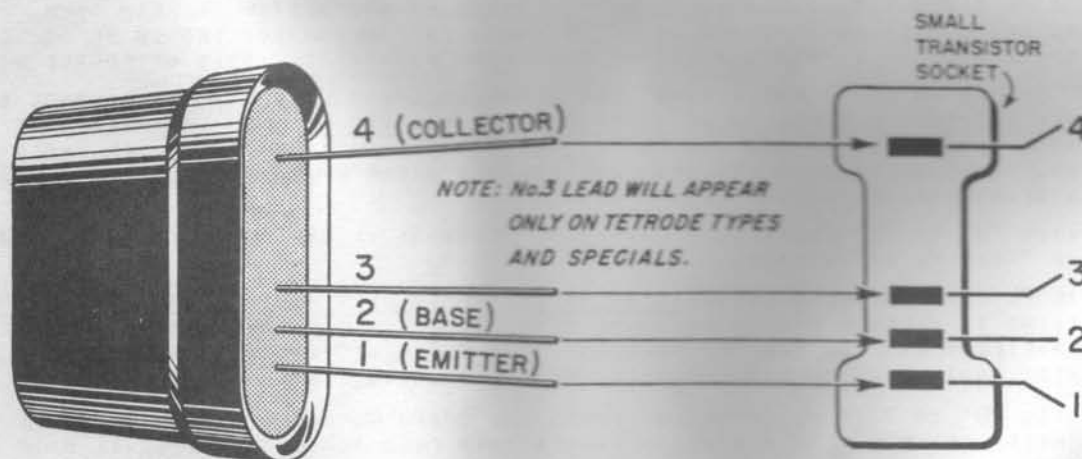

FIG. 5 PLUG-IN TYPE LOW POWER TRANSISTOR
- (1) FROM THE TRANSISTOR TEST DATA SHEET SUPPLIED WITH YOUR 660, SET THE LEVER SWITCHES TO THE SETTINGS INDICATED FOR THE TRANSISTOR TO BE TESTED.
- (2) SET SWITCH "B" AND CONTROL "C" IN ACCORD WITH THE DATA.
- (3) FROM THE DATA, DETERMINE WHETHER THE TRANSISTOR IS PNP OR NPN TYPE AND SET SWITCH "D" TO "SHORT" POSITION ACCORDINGLY.
- (4) THROW "PWR" SWITCH TO "ON" AND SET "ADJ LINE" CONTROL SO THAT THE METER LINES UP WITH THE "ADJ LINE" CALIBRATION.
- (5) PLUG THE TRANSISTOR INTO THE SMALL RECTANGULAR TRANSISTOR SOCKET IF THE CONDITION OF THE TRANSISTOR LEADS PERMIT. NOTE THE POLARIZATION AND IDENTIFICATION OF THE LEADS IN FIG. 5 BELOW. (FOR ADDITIONAL TRANSISTOR TYPES, SEE ILLUSTRATION AT THE END OF THIS MANUAL).